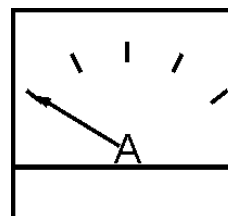

Figure 51. Ammeter (No Load)
14. The ammeter (Figure 51) will indicate zero amps with no load applied. When a load is applied, the ammeter will indicate the amount of current that the load is drawing from the generator.